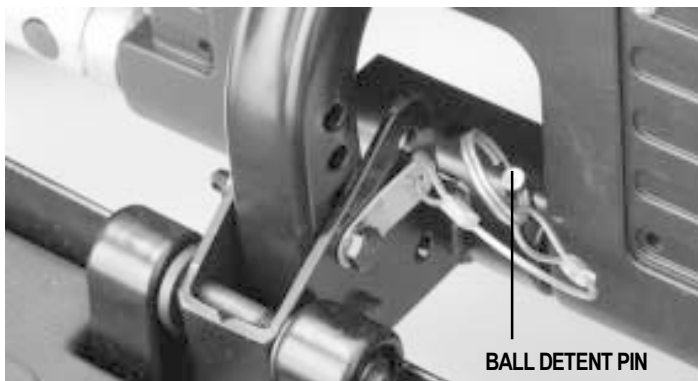

Figure 11. Footrest Bracket
14. Remove the ball detent pin from the footrest bracket. See figure 11.